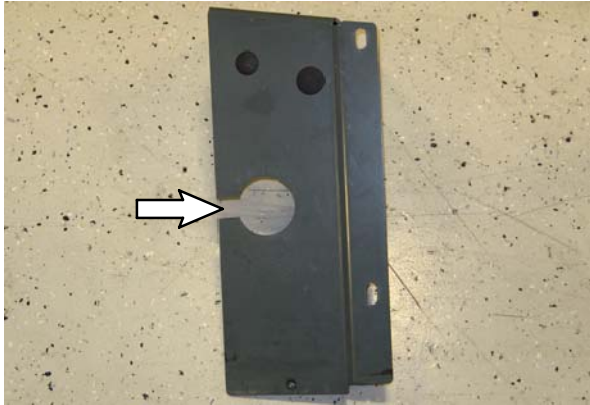

FIG. 17
59. Cut approximately 1" from the mounting bracket. Refer to Fig. 17.